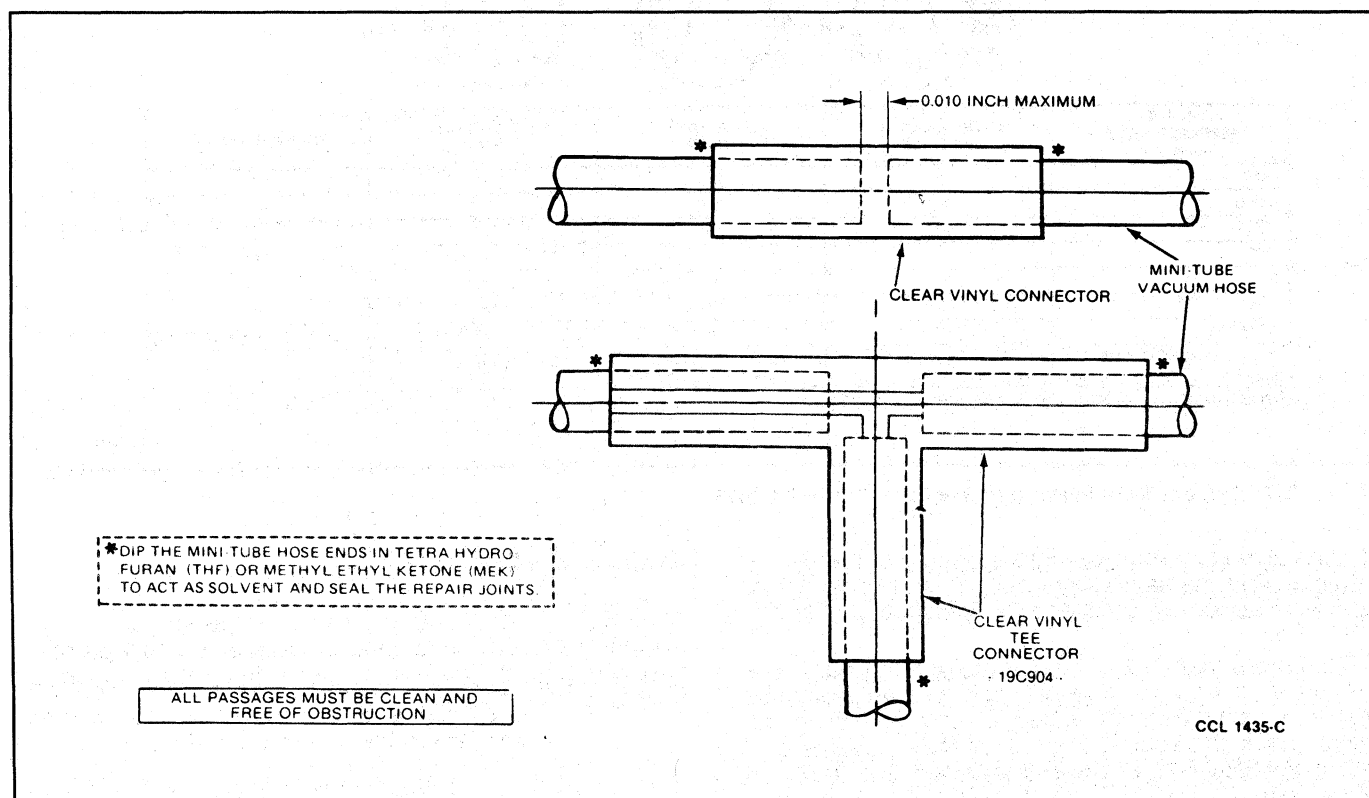

FIG. 14 Mini-Tube Vacuum Hose Service
5. Insert ends of mini-tube vacuum hose (Fig. 14) approximately 9mm (3/8-inch) into ends of standard 3mm (1/8-inch) service vacuum hose section.